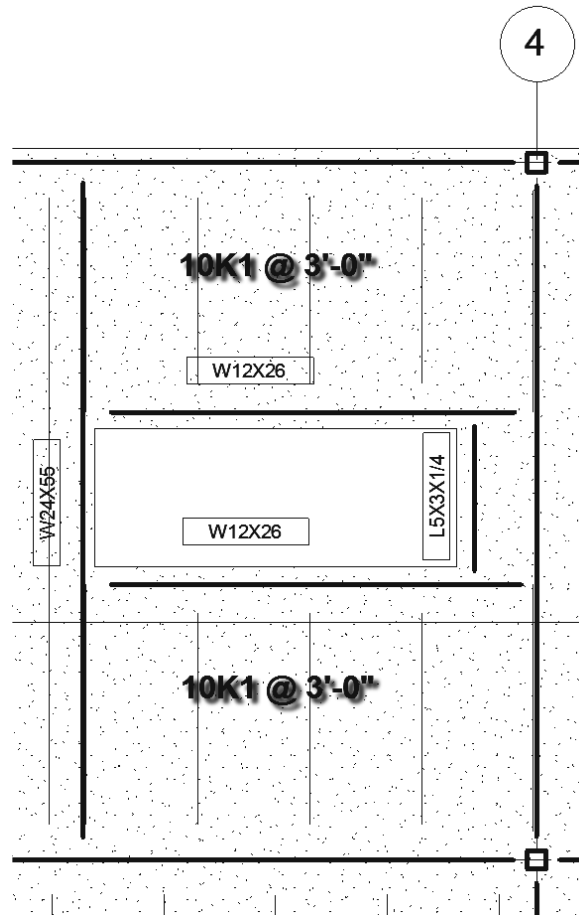

FIGURE 8-4.18 Beam Systems adjacent to the floor opening
47. Using techniques previously discussed, i.e., loading content and creating beam systems via sketching, place the remaining joists shown in Figure 8-4.18. Change the spacing to **3'-1"** to avoid joists being created right next to the adjacent beams.